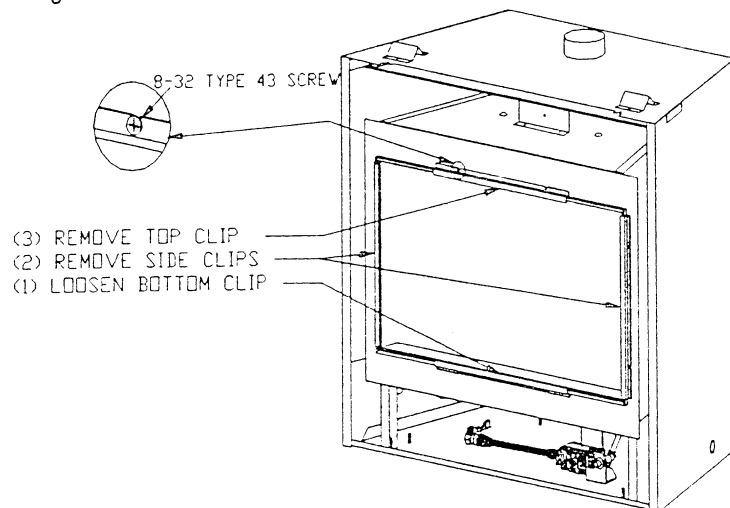

Figure 5
C) REMOVE THE GLASS FRONT. See Figure 5.
3. Replace the glass. Refer also to Figure 5 page 6.